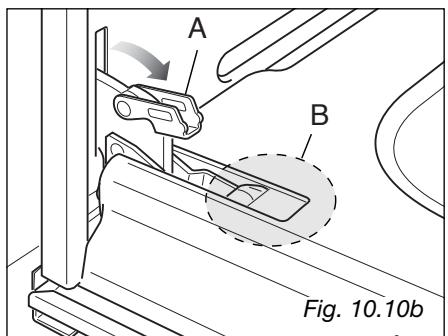
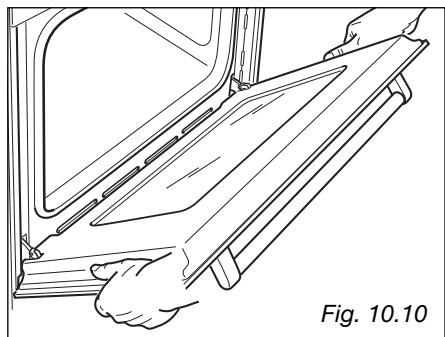

Fig. 10.10b
Fig. 10.10
- Open the lever "A" completely on the left and right hinges (fig. 10.10b).
- Hold the door as shown in fig. 10.10.
- Gently close the door (fig. 10.10) until left and right hinge levers "A" are hooked to part "B" of the door (fig. 10.10b)